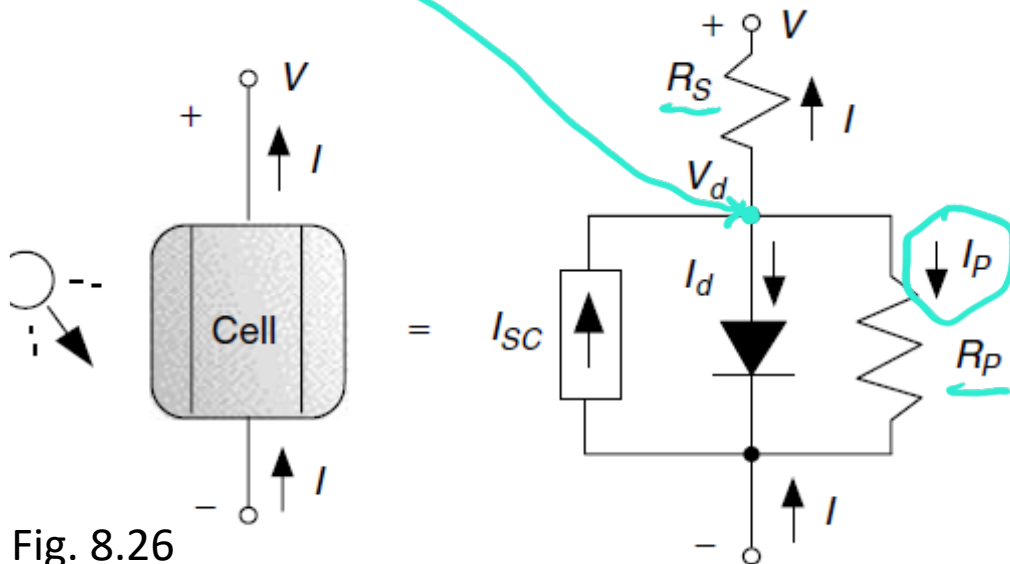

Fig. 8.26
- Finally, let us generalize the PV equivalent circuit by including both series and parallel resistances as shown in Fig. 8.26. We can write the following equation for current and voltage: